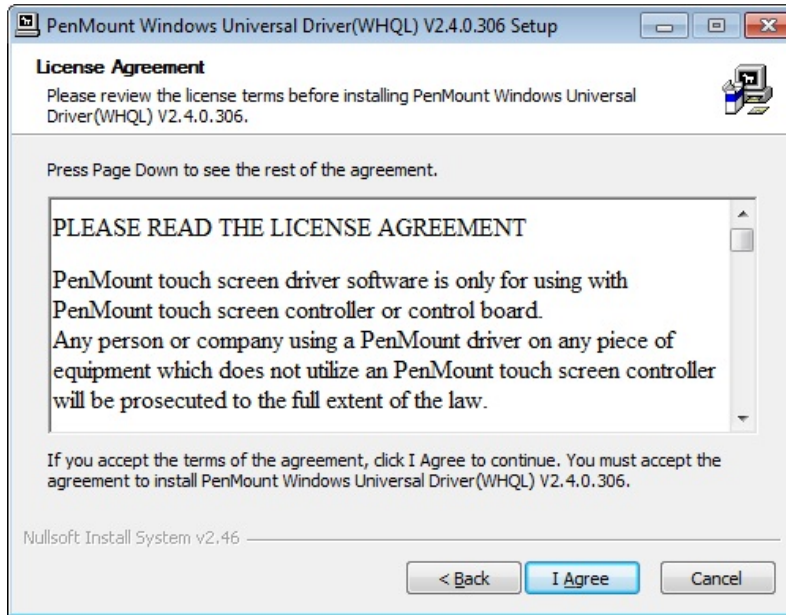

Figure 6-31: Touchscreen Driver License Agreement
Step 5: The license agreement in **Figure 6-31** appears.